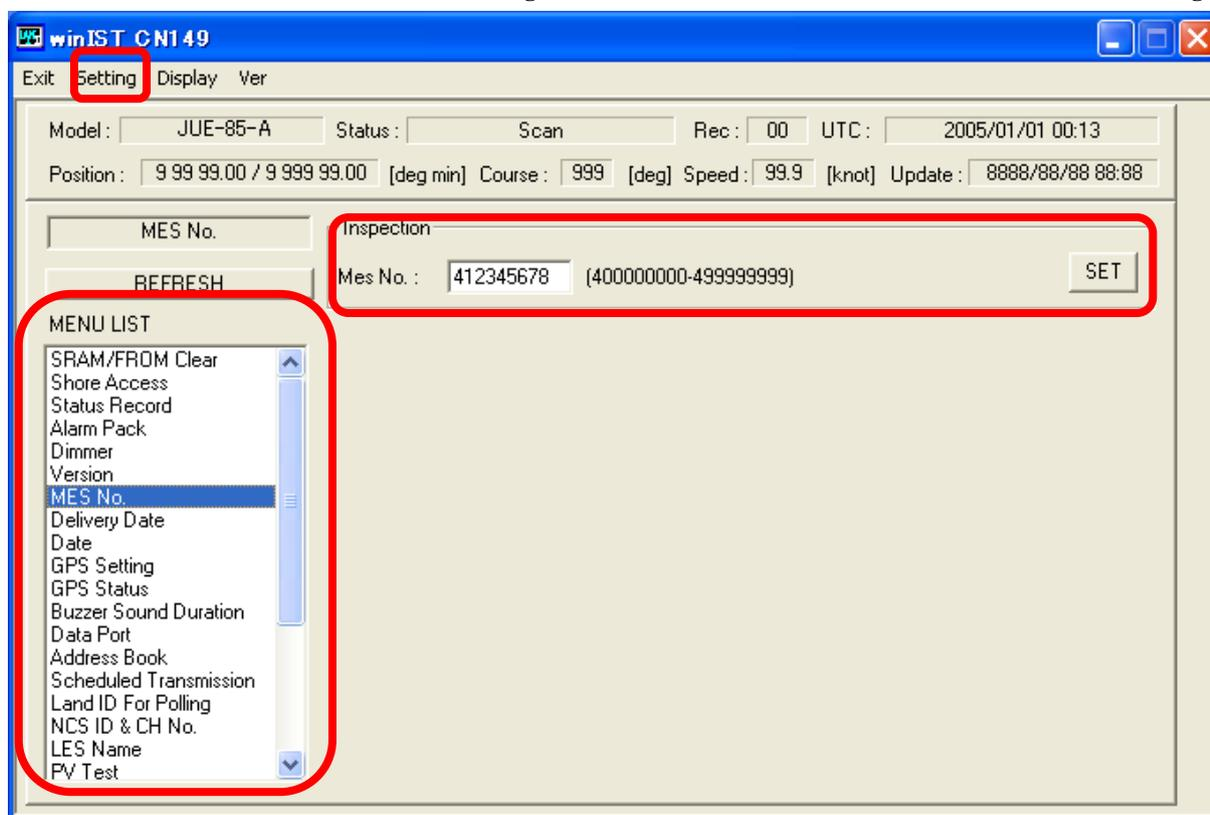

Fig. 4-9-1 [MES No.] screen
2. Operation except [Exit], [Display], and/or [Ver] is not possible while winIST is communicating with INMARSAT terminal (the function in the frame of **Fig. 4-9-1 [MES No.] screen** cannot be operated.)
4. Operation except [Exit], [Display], and/or [Ver] is not possible while winIST is communicating with INMARSAT terminal (the function in the frame of **Fig. 4-9-1 [MES No.] screen** cannot be operated.)